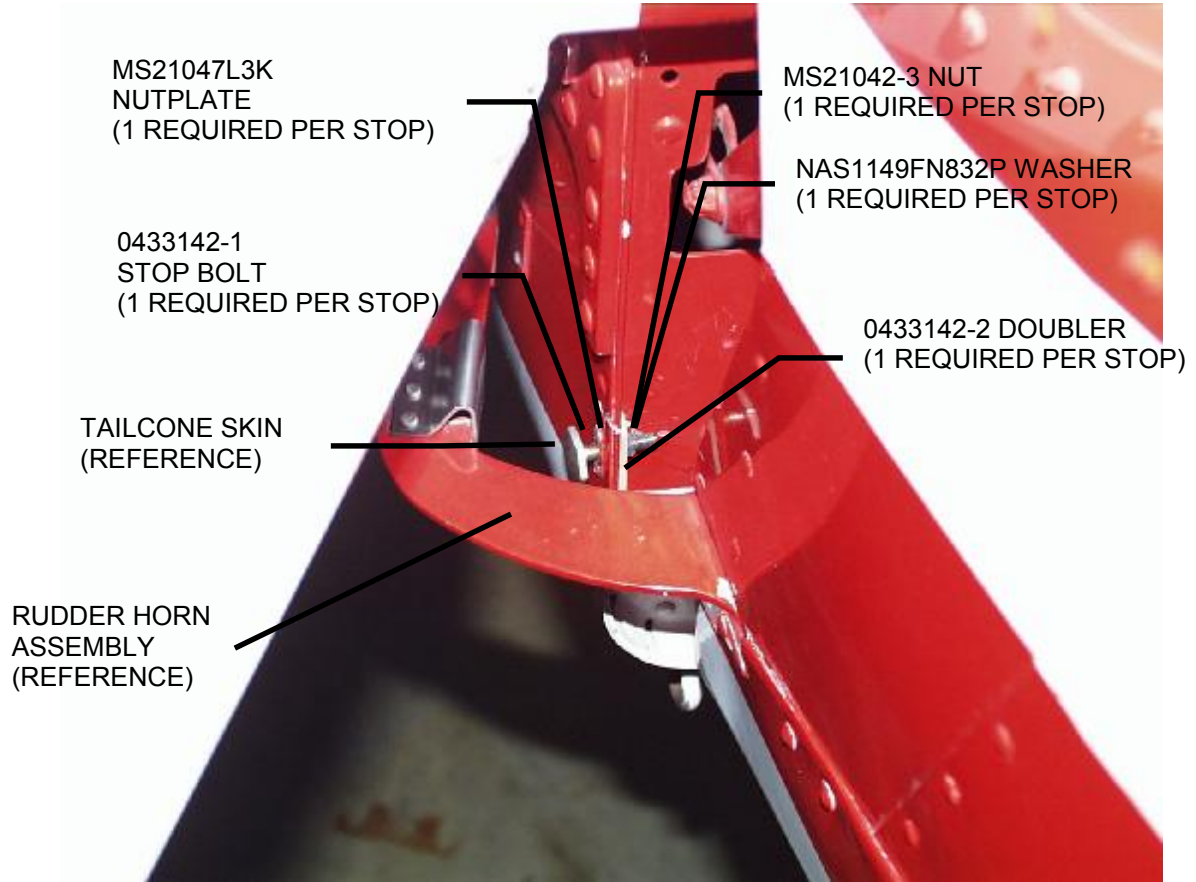

FIGURE 1.
2. (Refer to Figure 1.) Remove rivets attaching rudder stop bumper to rudder horn assembly. Remove rudder stop bumper.
13. (Refer to Figure 1.) Attach doubler and new MS21047L3K Nutplate to tailcone using MS20426AD3-6A Rivets.
14. (Refer to Figure 1.) Install 0433142-1 Stop Bolt in nutplate. Install NAS1149FN832P Washer and MS21042-3 Nut onto inboard end of stop bolt.